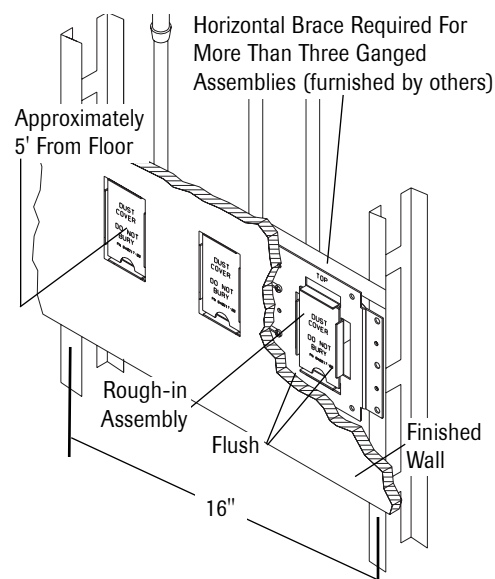

Figure 2
2. Provide rigid mounting for rough-in assemblies according to the type of wall construction. Rough-in assemblies must be mounted to structural members. The strength of the wall alone is not sufficient support. Rough-in assemblies installed in patient rooms should be located with the centerline approximately 5' above the finished floor to avoid damage from moveable equipment (Figure 2).
3. Position the front edge of the rough-in assembly so it will be flush or below the finished wall line. The sides of the box on the assembly can accommodate a normal 1/2" minimum finished wall thickness to a maximum 1 1/4" wall thickness. This is important for proper fit of the slide assembly and coverplate (Figure 2).
4. Leave the DO NOT BURY ME protective cover on the rough-in assembly until the wall has been finished (Figure 2).